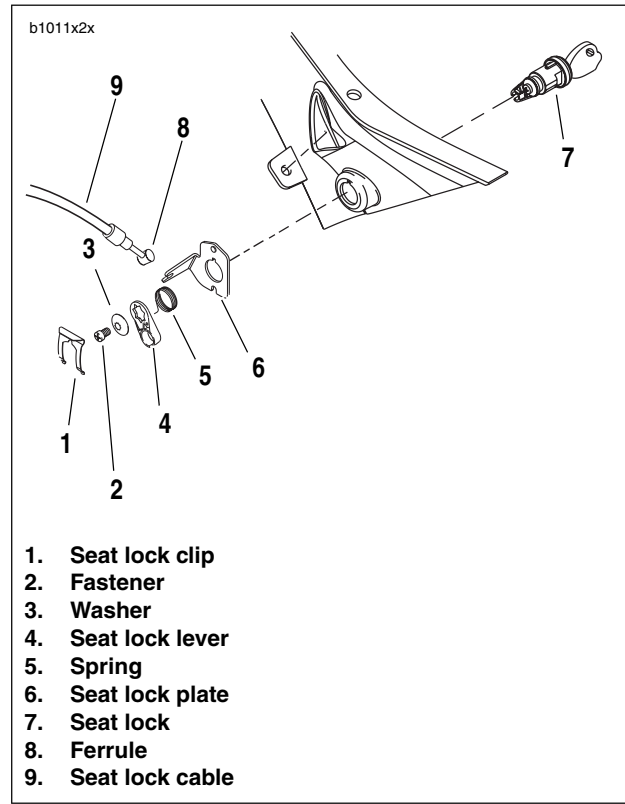

Figure 2-123. Seat Lock and Cable Assembly
3. See Figure 2-123. Disconnect passenger lock cable (9) by removing cable from seat lock plate (6) and ferrule from seat lock lever (4).
4. Remove seat lock lever (4) by removing fastener (2) and washer (3) from seat lock (7).
5. Remove spring (5).
6. Remove seat lock clip (1) by sliding from seat lock plate (6).
7. Remove seat lock plate (6) and seat lock (7).
1. See Figure 2-123. Install the seat lock (7) on to upper tail body work.
2. Install seat lock plate (6) by aligning plate tab onto seat lock (7).
3. Install seat lock clip (1) by sliding clip aligning clip groove onto seat lock plate (6) tab.
4. Position short tab of spring (5) into seat lock notch.
5. Position long end of spring into the seat lock lever (4).
6. Load the spring (5) by turning the seat lock lever (4) counterclockwise 1/4 turn.
7. Once the spring is loaded, install the seat lock lever (4) onto the lock aligning the lever to the square groove that is cast into the seat lock (7).
8. Fasten the lock lever (4) to the seat lock (7) with the washer (3) and fastener (2).
9. Install the ferrule (8) of the seat lock cable (9) into the seat lock lever (4).
11. Install the seat lock cable (9) into the seat lock plate (6).